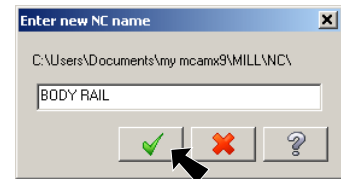

Fig. 4
Step 2. Click OK  in NC name dialog, Fig. 4.